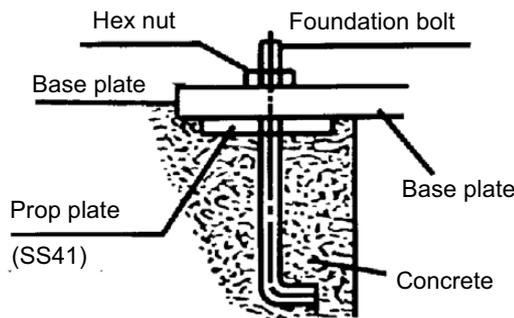

Fig. 4
- (b) A massive concrete foundation is preferred in order to minimize vibration. Rigidity and stability are enhanced by prop plate and foundation bolt, as shown in Fig. 4.